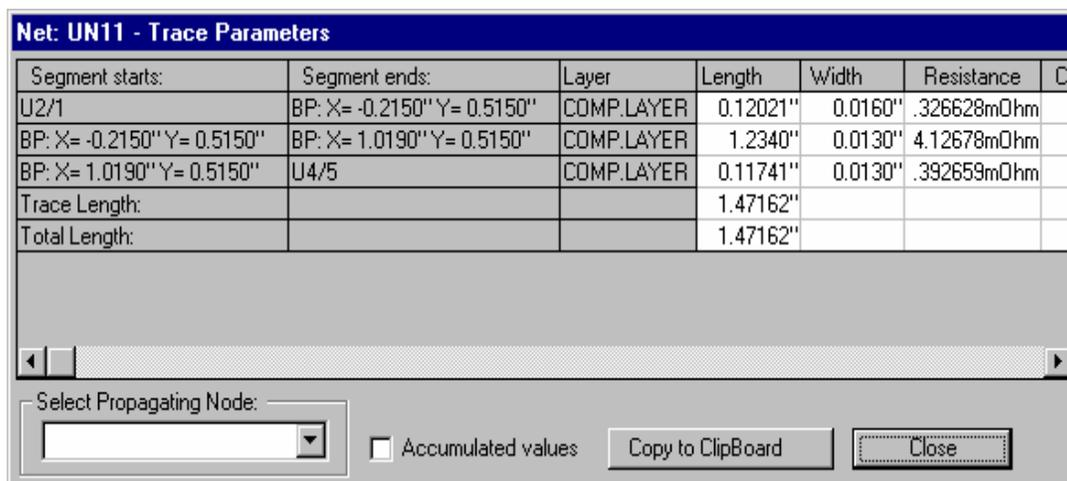

Fig. 9.6
- View the electrical parameters of the trace from point to point using the VIEW TRACES button (Refer Fig. 9.6).